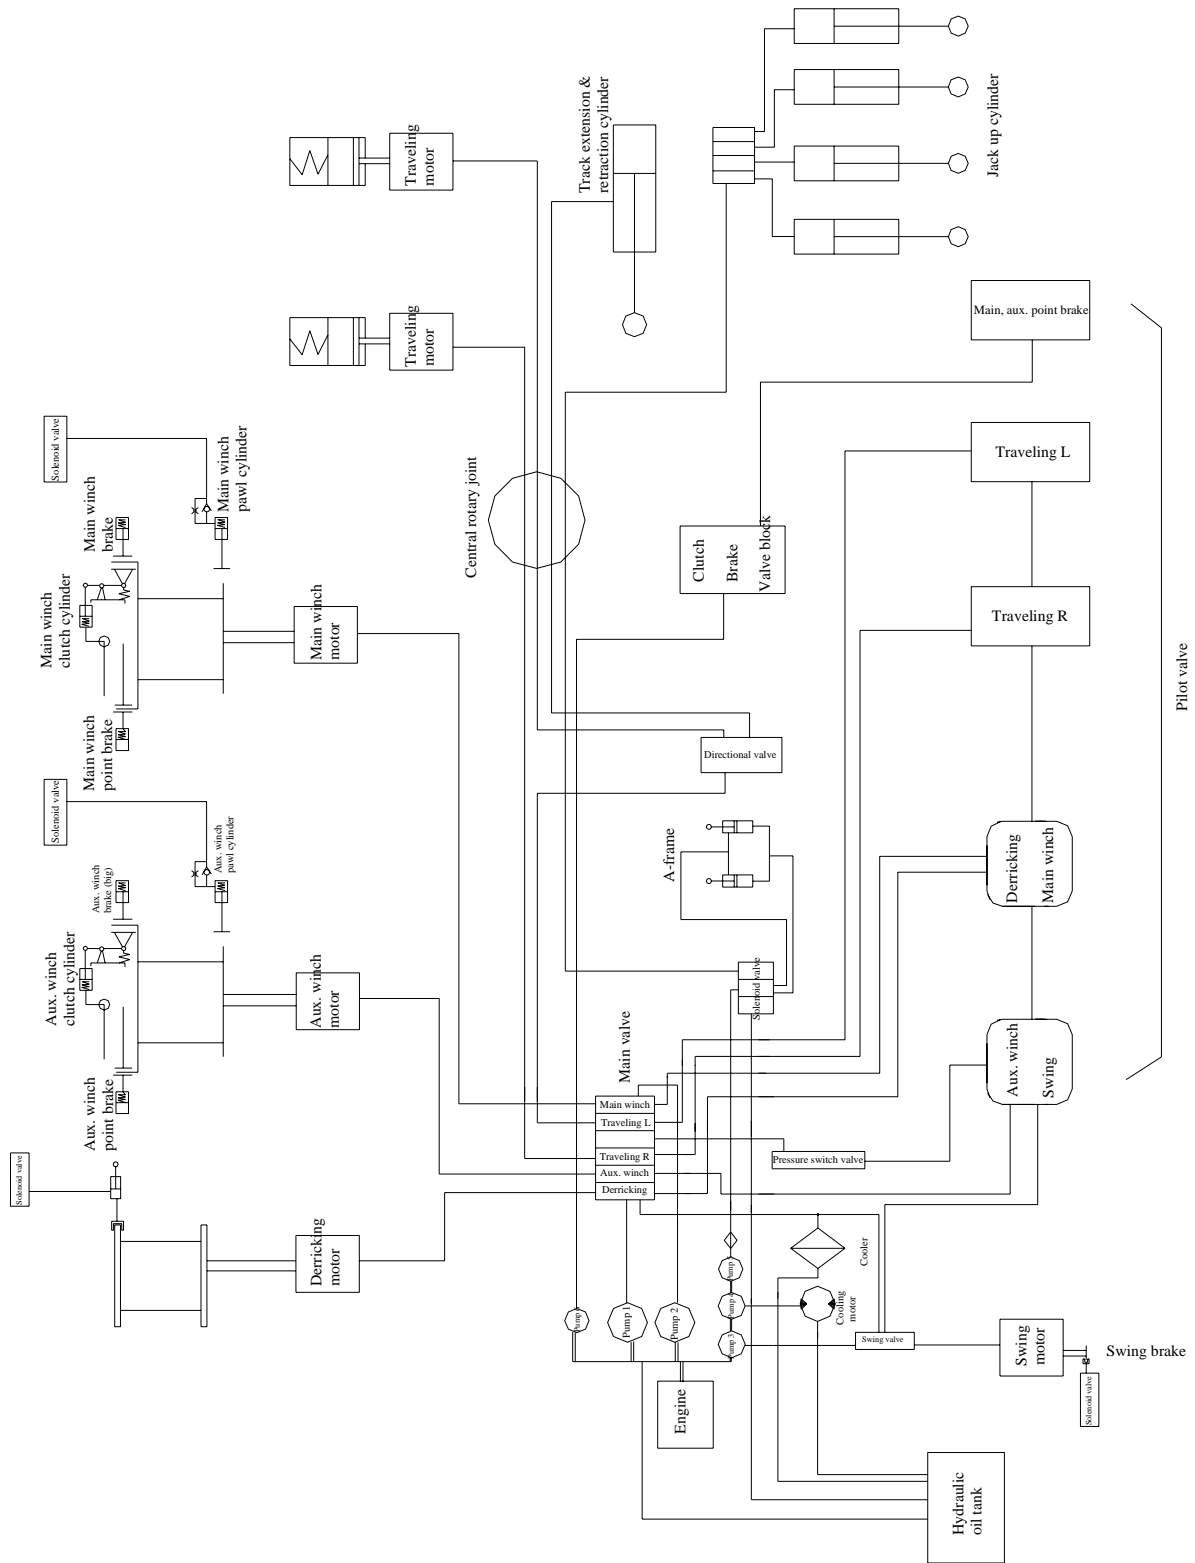

Fig. 3-4
3.3 Hydraulic System Schematic Diagram of Hydraulic System Is Shown in Fig.3-4